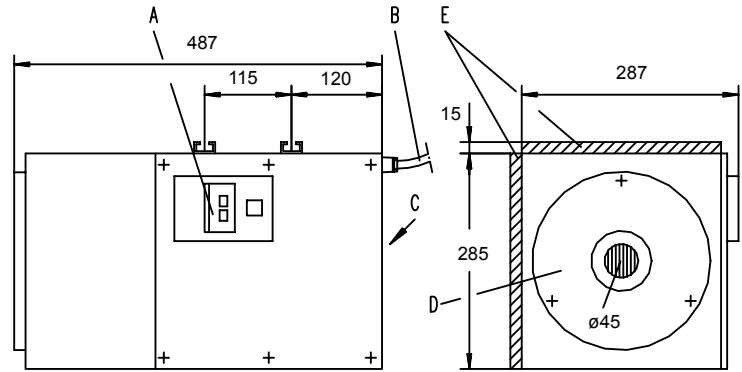

Figure 1
- A = (Figure 1) motor protection-switch
- E = (Figure 1) C-rails, 28 x 15, for fastening / supporting; location on two sides
The angular vacuum corresponding to Figure 1 may be controlled such that it only vacuums during movement; it is designed for continuous operation. Its major application is found in branched systems, automated operation, or, if descending dust effects the production below and / or computer aided transfer of data takes place.
a) Vacuum, angular corresponding to Figure 1: